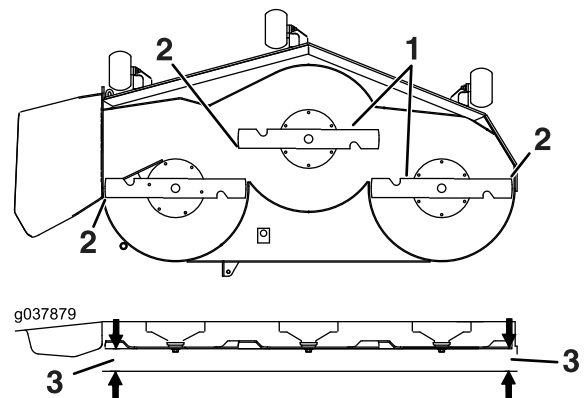

Figure 100
6. Measure between the blade tip and the flat surface (Figure 100). If both measurements are not within 5 mm (3/16 inch), adjust the leveling; continue with this procedure.
14. Carefully rotate the blades side to side (Figure 100).